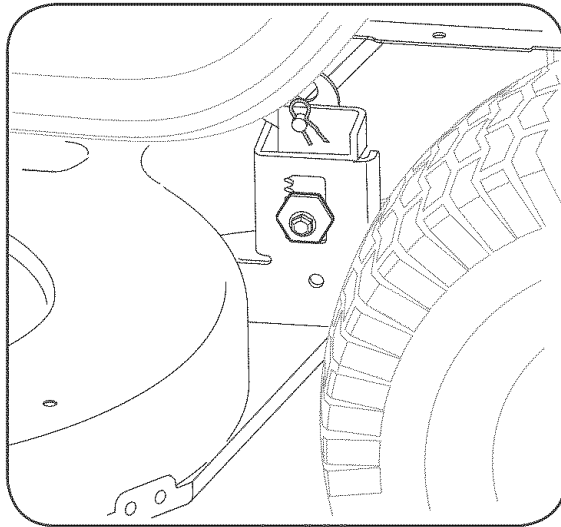

Figure 22
4. Looking at the cutting deck from the left side of the tractor, locate the hair pin clip that secures the deck support rod on the rear left side of the deck. See Figure 22.